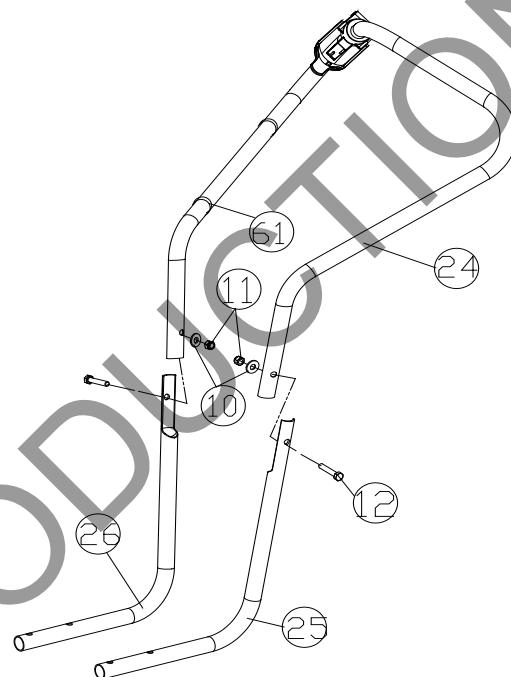

Fig. 1
1. The hardware for attaching the upper handle to the lower can be found in the parts bag. Install the upper handle (item #24) to preassembled lower handles (item #25 and #26) by sliding the upper handle over and down the inside of the lower handle. Using bolt (item #12), washers (item 10) and lock nut (item #11), install upper handle to lower handle. Finish installing the other side of the upper handle assembly using screw and lock nut provided. The Aim-and-Shoot™ is not attached, you will need to unroll the cable and attach the ball end to the lever and seat the cable end into the hole on the saddle clamp, with the cable running through the slot. To keep the cable from being damaged, use three ty-wraps (item #61) to secure it to the handle as shown, making sure that the cable is not rubbing against the tire. (See Fig. 1)